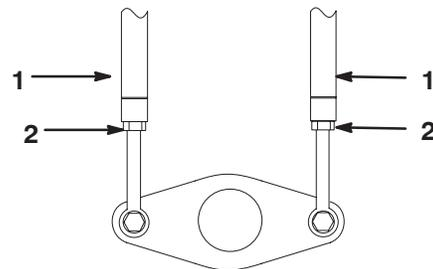

Figure 36
3. Loosen the jam nuts on the traction rods, under the control panel (Fig. 36).